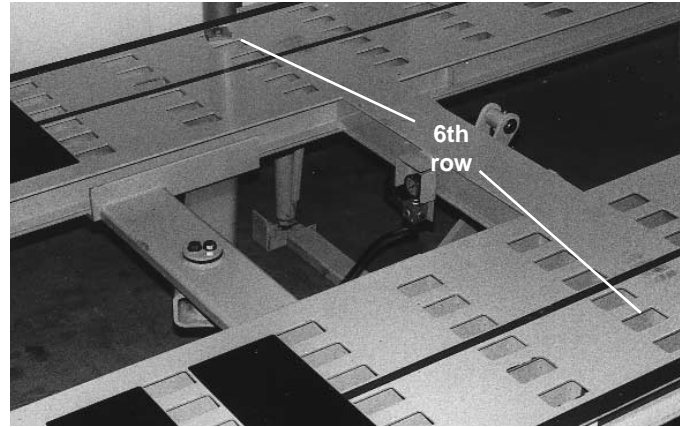
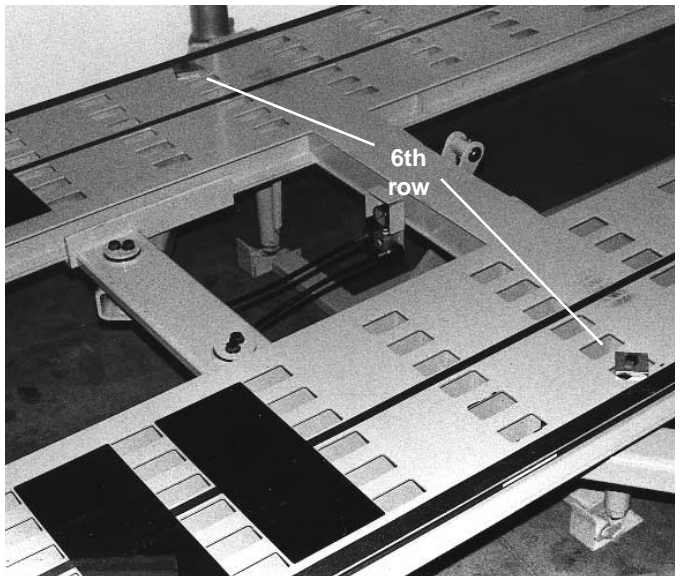

Figure 8
Figure 9
- Secure tower to outer tie down hole in sixth row from rear of machine....just behind machine's stiff leg. (See Figure 8.) If machine has two auxiliary towers, secure them on opposite sides of the machine. (See Figure 9.)